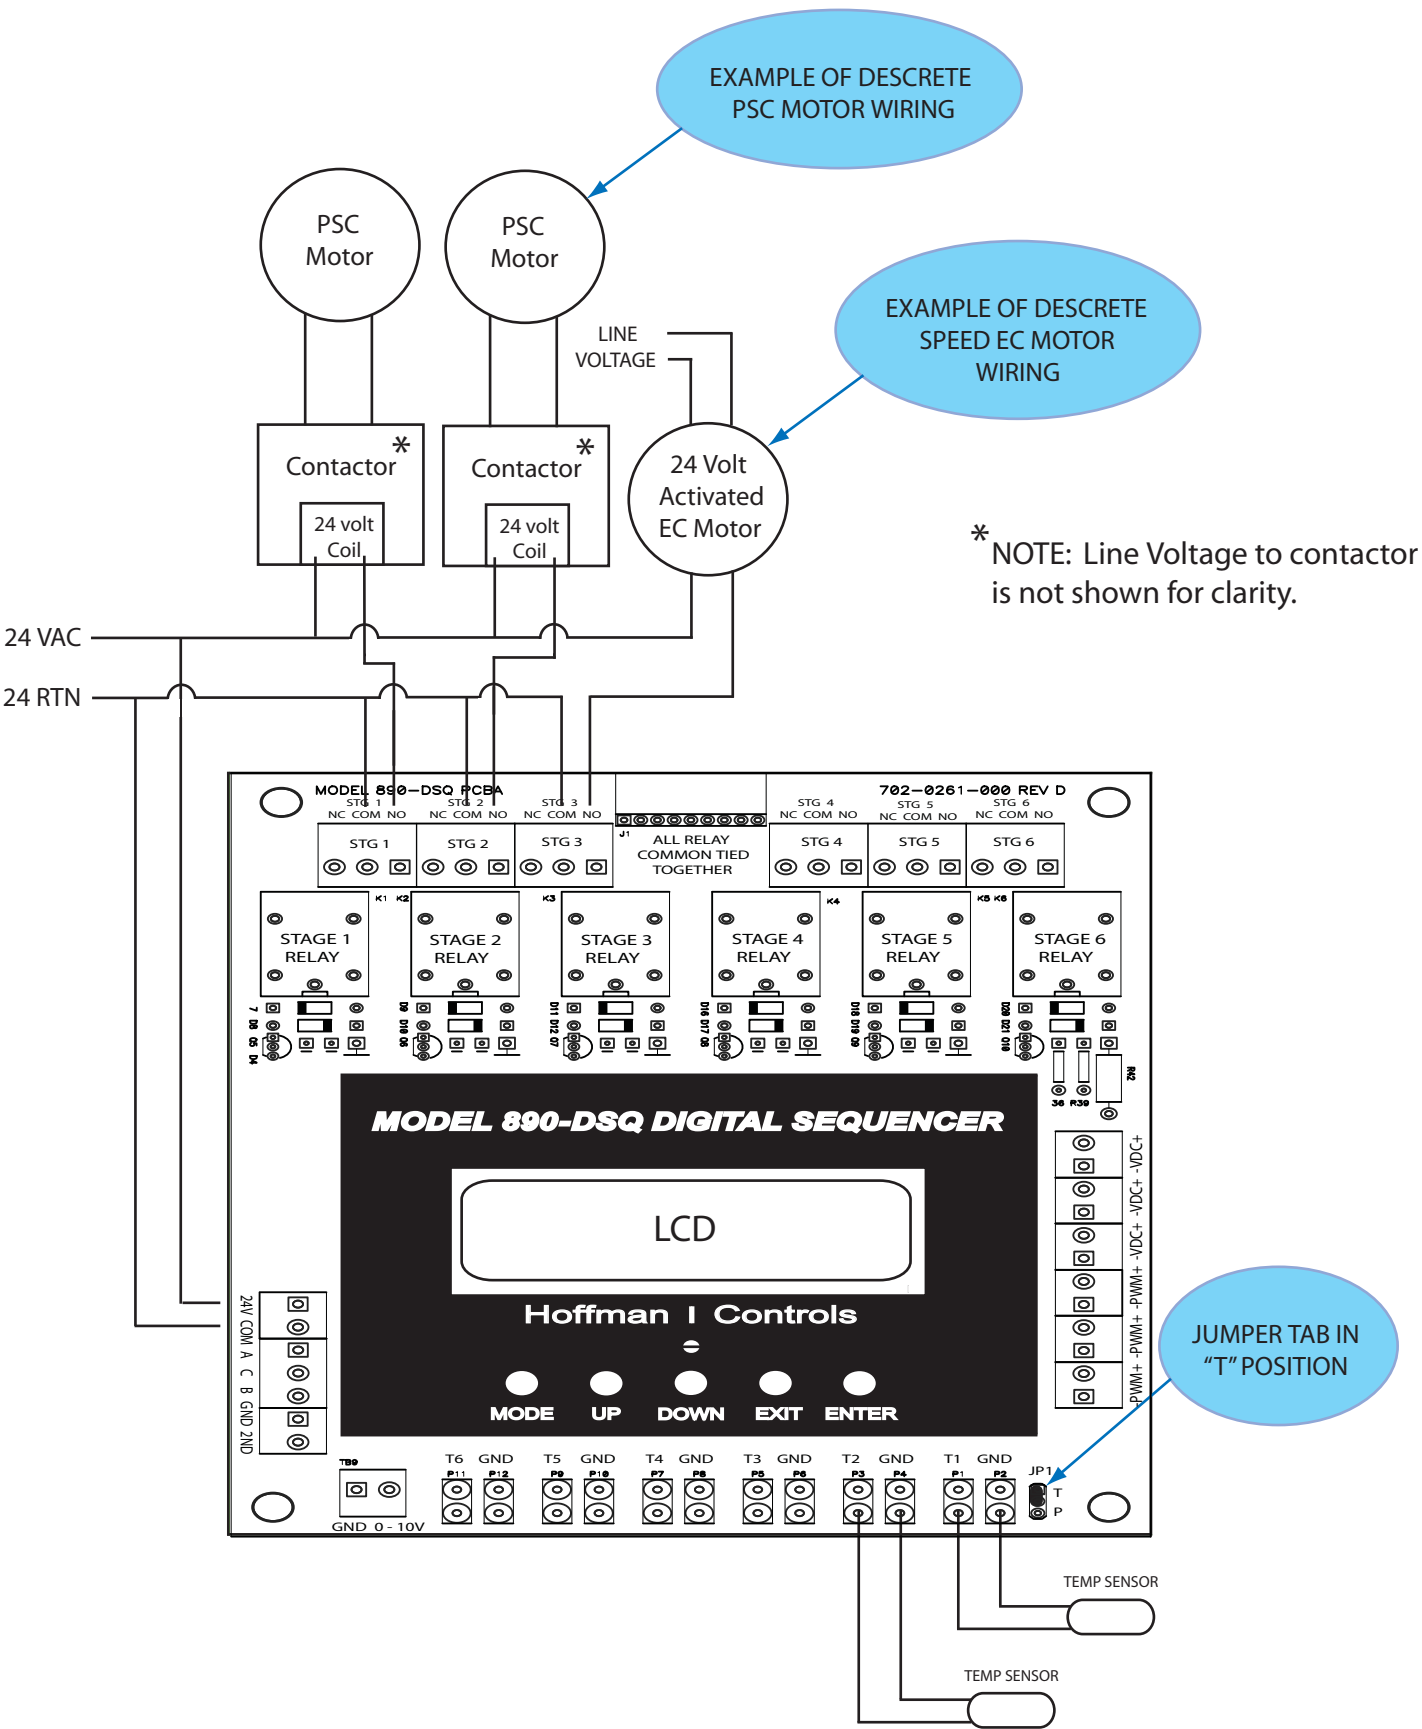
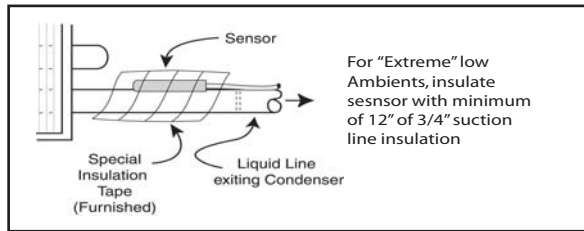

Figure 5
Figure 6
The 890-DSQ Series Sequencers may be installed using a range of inputs, staged relay outputs, and continuously variable speed EC motors or SCR outputs. Refer to **Figures 5 thru 8**, (pages 12 thru 15), for the appropriate wiring diagram(s) for this application. More than one wiring diagram's information may be required when installing the 1) Modbus connection, 2) secondary set point contact closure, 3) 0 - 10 VDC input or 4) VS (variable stage) EC motors or SCRs.
4) Refer to **Figure 5, 890-DSQ Wiring Diagram 1**, (on page 12) for applications using staged relay outputs with temperature sensor inputs. Also see **Figure 6, Liquid Line Temperature Sensor Mounting** (on page 13) for liquid line temperature sensor mounting.